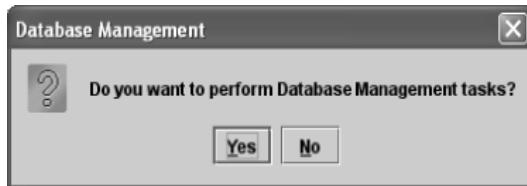
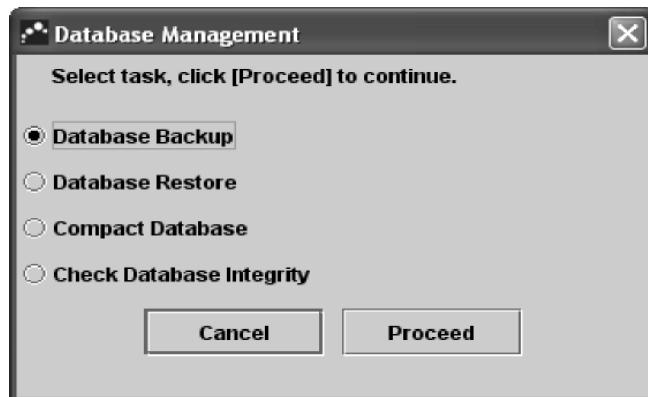

Figure 5-45. Database Management dialog box
Figure 5-46. Database Management dialog box
After starting up or shutting down the system, the Database Management dialog box appears on top of the GeneXpert Dx System window (Figure 5-45).
1. Click Yes on the Database Management dialog box (Figure 5-45). The Database Management dialog box appears (Figure 5-46).
1. Select **Database Backup** on the Database Management dialog box (Figure 5-46).
1. Select **Database Restore** on the Database Management dialog box (Figure 5-46).
1. Select **Compact Database** on the Database Management dialog box (Figure 5-46).
1. Select **Check Database Integrity** on the Database Management dialog box (Figure 5-46).